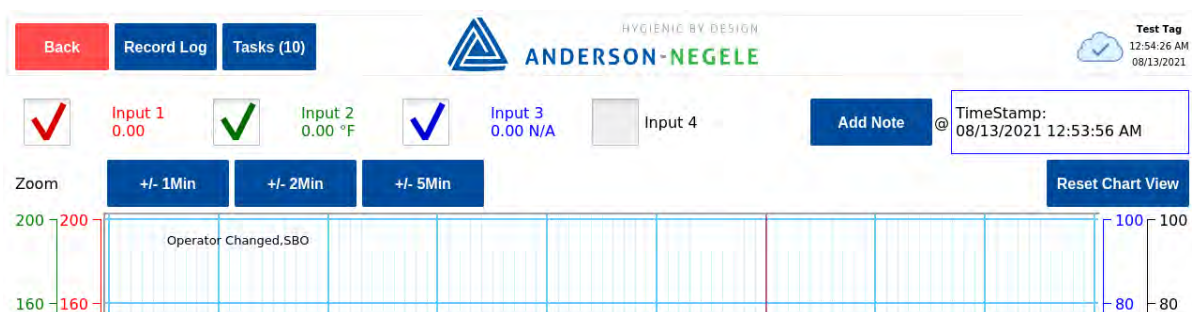

Figure 55: View Process data at Time Stamp
4. The user can also verify the input values at that point in time by viewing the area above the chart screen shown in Figure 55